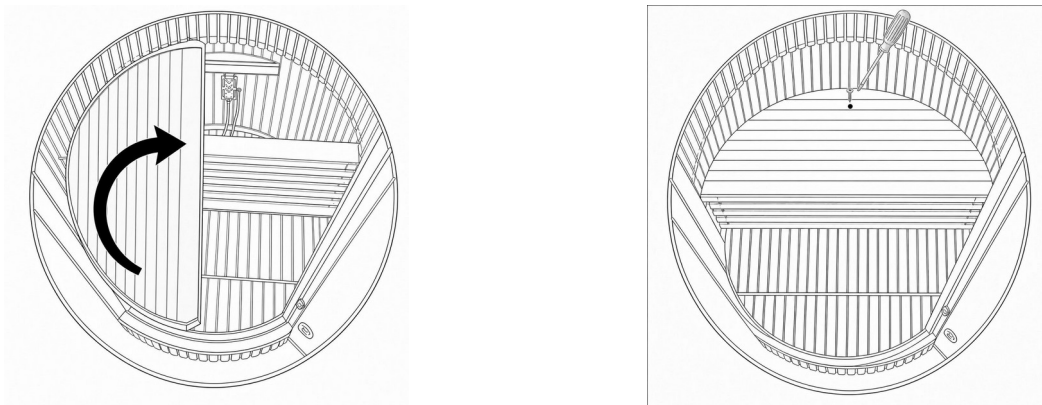

Figure 14. Left: the Seat Panel rotated clockwise into place, viewed from above. Right: the Seat Panel fully seated, with the 4 × 50 mm screw at the back.
- Once the wires are connected, rotate the Seat Panel clockwise, viewed from above, until it sits fully in place against the Back Panel (Figure 14, left).
- Using the power drill with the Phillips bit or the Phillips screwdriver, secure the Seat Panel to the Back Panel with the (1) 4 × 50 mm screw in the pre-drilled hole toward the back of the panel (Figure 14, right). Drive the screw until the head seats; do not over-tighten.